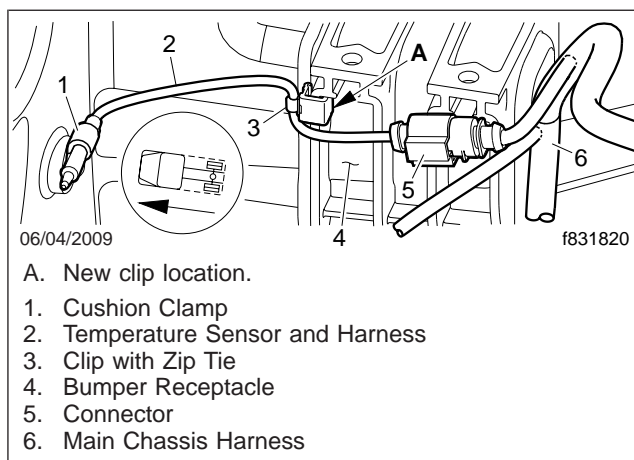

Fig. 1, Ambient Temperature Sensor and Harness Installation
Refer to **Fig. 1** for the new ambient air temperature sensor harness installation.
7. Using the original clip and a new zip tie, secure the ambient air temperature sensor harness in the new location on the bumper receptacle, as shown in **Fig. 1**.